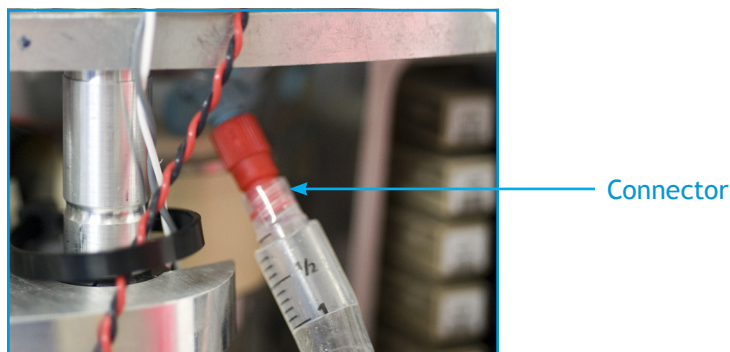

Figure 4-4: Connection in Air Clean line
4. Follow the line from the port to the in-line connector (see Figure 4-4). The connector is located between the PSV and the Clean Air container.